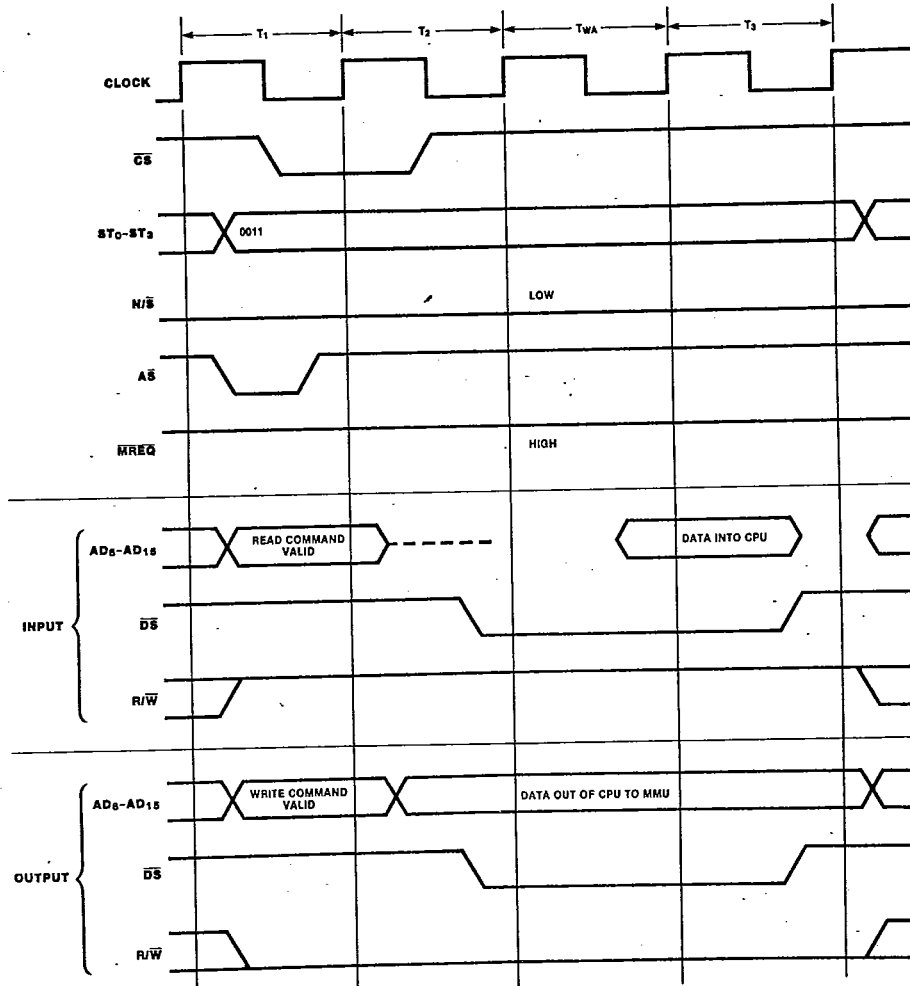

Figure 11. I/O Command Timing
**MMU Command Cycle.** During the command cycle of the MMU (Figure 11), commands are placed on the Address/Data lines during T1. The Status lines indicate that a Special I/O instruction is in progress, and the Chip Select line enables the appropriate MMU for that command. Data to be written to a register in the MMU must be valid on the Address/Data lines late in T2. Data read from the MMU is